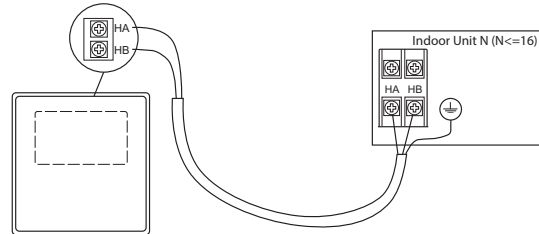
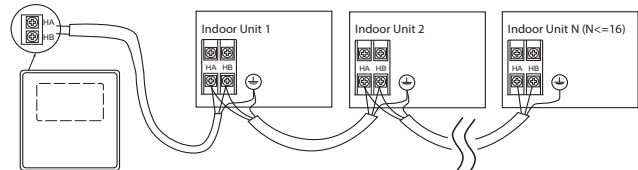

Fig. 5 — One-to-One Controller Connection
Fig. 6 — Group Controller Connection
8. Using 2-core shielded twisted pair cable, 16 to 20 AWG (American Wire Gauge), attach the control cable to the HA/HB terminal on the unit and other end to the controller HA/HB terminal. For connecting the controller to a single indoor unit see Fig. 5. For connecting the controller to multiple indoor units see Fig. 6. Connect the shield/drain conductor of control wire to ground at the indoor unit; do not connect the shield/drain conductor at the controller.